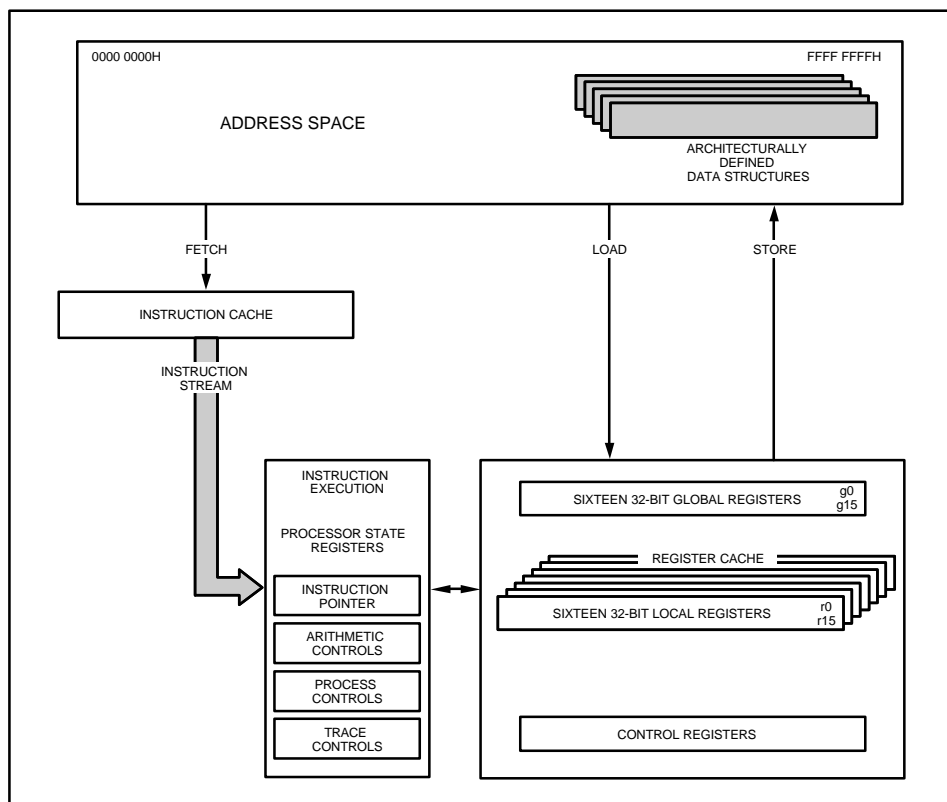

Figure 2. 80960KA Programming Environment
1. Large Register Set. Having a large number of registers reduces the number of times that a processor needs to access memory. Modern compilers can take advantage of this feature to optimize execution speed. For maximum flexibility, the 80960KA provides thirty-two 32-bit registers. (See Figure 2.)